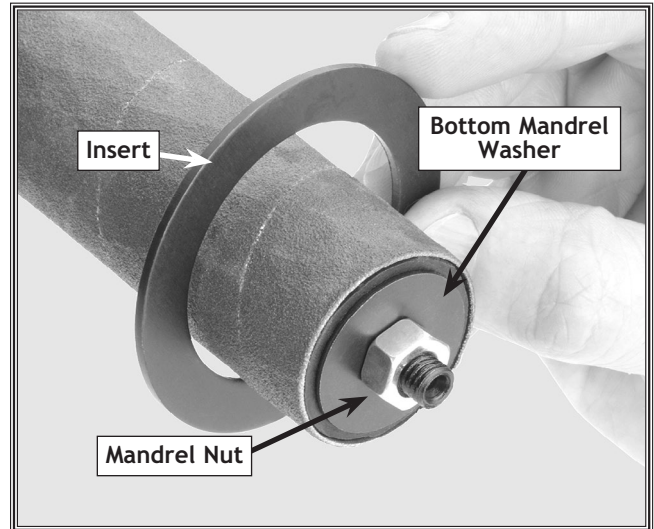

Figure 46. Sanding drum table insert.
8. Install the sanding drum, sandpaper, and top and bottom mandrel washers on the mandrel, then secure with the mandrel nut, as shown in **Figure 46**.
9. Choose the insert that has an opening which is slightly bigger than the sanding drum chosen (see **Figure 46**).